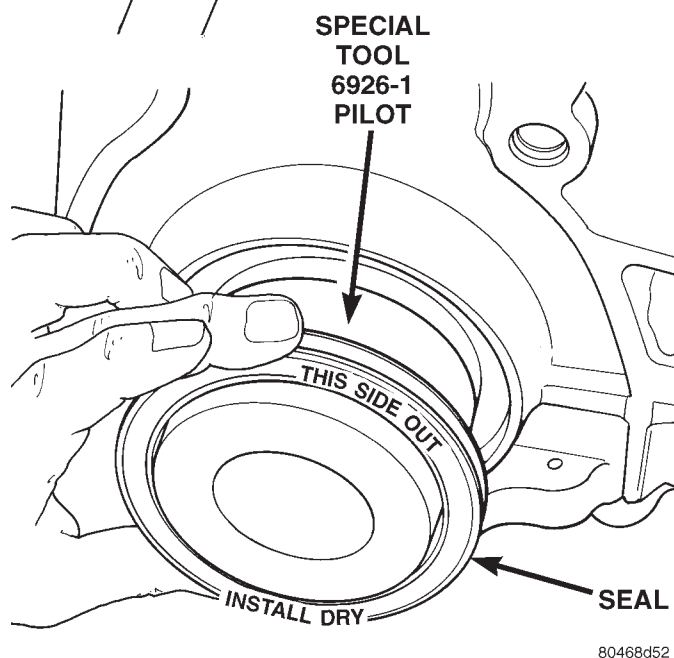

Fig. 60 Rear Crankshaft Seal and Special Tool 6926-1
- (1) Place Special Tool 6926-1 on crankshaft. This is a pilot tool with a magnetic base (Fig. 60).
- (2) Position seal over pilot tool. Make sure you can read the words **THIS SIDE OUT** on seal (Fig. 60). Pilot tool should remain on crankshaft during installation of seal. Ensure that the lip of the seal is facing towards the crankcase during installation.